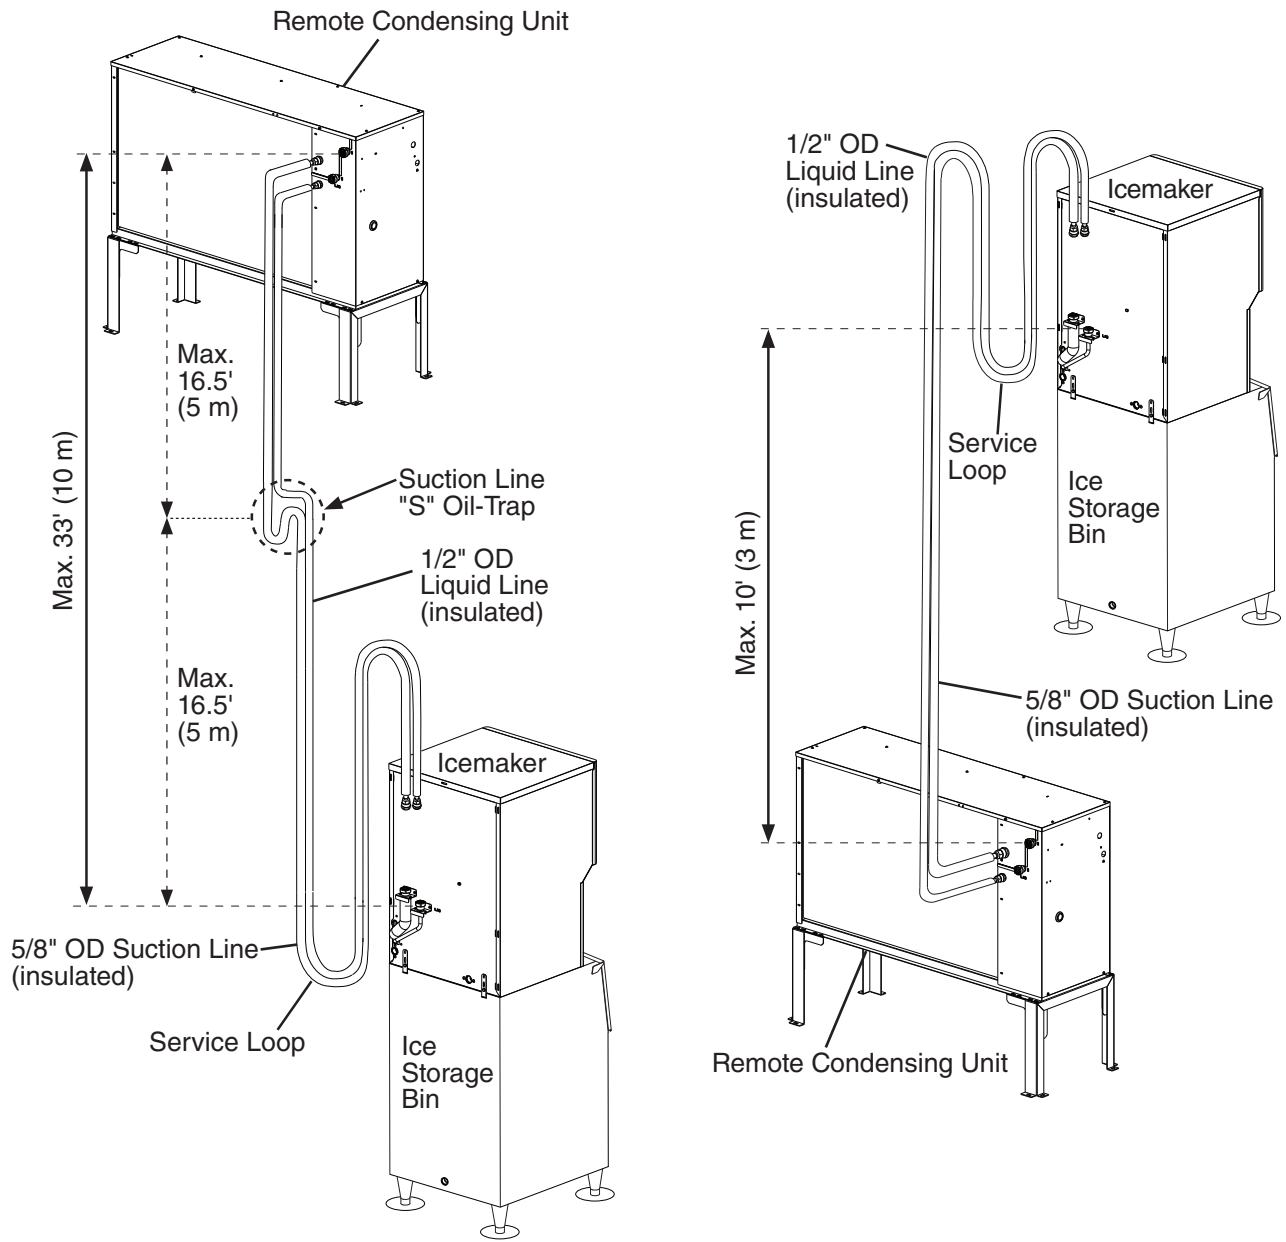

Fig. 8
- The maximum vertical distance between the remote condensing unit and icemaker is 33' (10 m) above or 10' (3 m) below the icemaker. These distances are measured fitting to fitting. See Fig. 8.
- 1) Route the factory line set (5/8" OD suction line and 1/2" OD liquid line) from the remote condensing unit to the icemaker. Leave a service loop behind the icemaker to allow the icemaker to be pulled out for service. See Fig. 8. Factory fabricated line sets are precharged and do not need to be evacuated. If the line set is too long or too short, see "II.E.2.a)(1) Factory Line Set Modification."